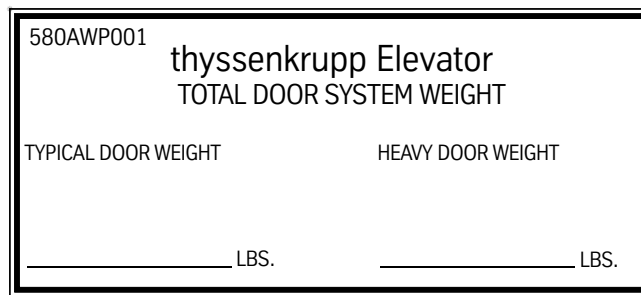

Figure 63 - Total Door System Weight (580AWP001) Label
2. Add the weight of the car doors and the weight of the hoistway doors, and enter this number as the typical door weight on the Total Door System Weight (580AWP001) label. See Figure 63.